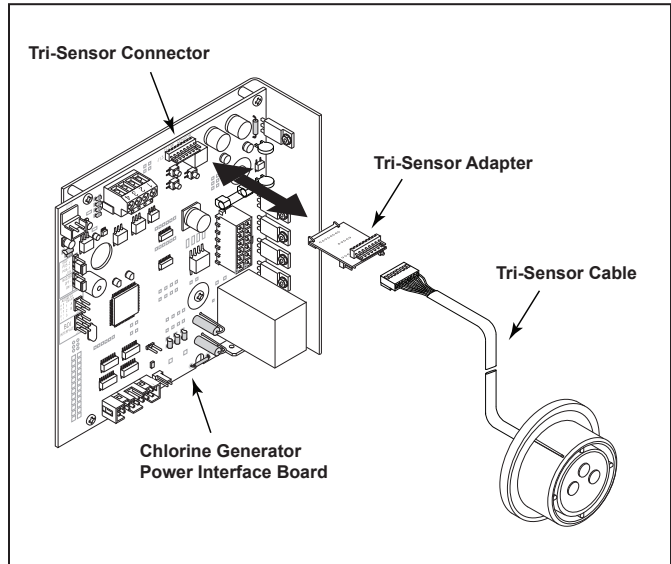

Figure 3. Installation of the Tri-Sensor Adapter on a Chlorine Generator Power Interface Board
4. Connect the tri-sensor cable 8-pin connector into the 8-pin male connector on the tri-sensor adapter. See Figure 3.
5. Connect the tri-sensor adapter 8-pin female connector into the tri-sensor connector on the chlorine generator power interface board. See Figure 3.